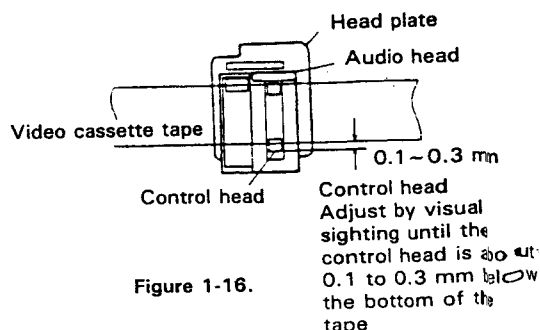
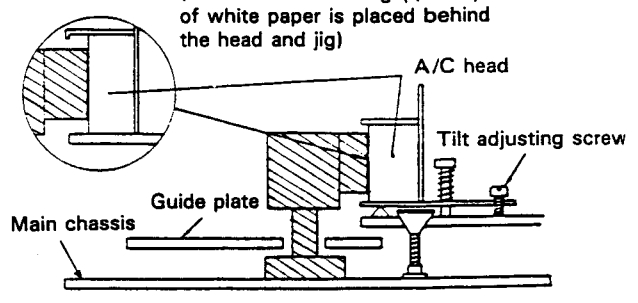

Figure 1-16.
Figure 1-19.
• Replacement (See Figs. 1-16 and 1-17)
2. Loosen the tilt adjusting screw ② by using a phillips screwdriver.
3. Remove the azimuth adjusting screw ⑤ (3P+ 8S) with a phillips screwdriver.
4. Remove the A/C head screw ④ with a phillips screwdriver, paying attention to the spring ⑦ between the A/C head screw ④ and A/C head assembly ①.
6. The A/C head assembly ① is attached so that the A/C head arm and A/C head plate stand approximately parallel to one another.
7. Set the A/C head tilt according to Fig. 1-19.
8. Play an alignment tape and roughly adjust the height of the A/C head, by eye, by turning the A/C head adjusting hexagon nut with the special nut driver until the tape comes to the positions shown below. (See Fig. 1-16).
2. Set the tilt angle of the audio/control head as shown in Fig. 1-19.